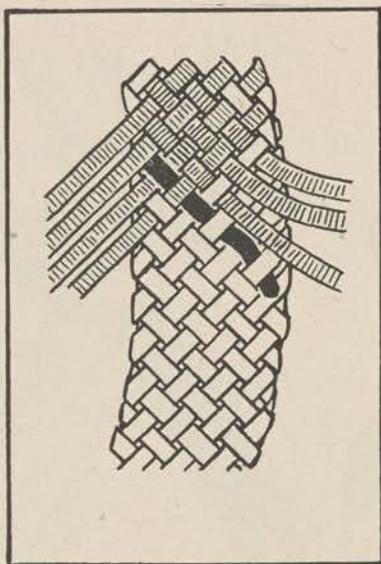

Figure 158.
b. When the core has been covered and the pattern is completed, the bracelet is finished by weaving the eight strands through the open stitches at the beginning of the work. Start with the lower right strand and work it alternately under and over the four beginning stitches at the right (fig. 158). The illustration shows the remaining strands pulled aside. Do the same with the lower left and continue until all eight are woven through the start of the work and protrude at the edges. Then carry them to the inside of the bracelet, tuck them through the stitches there and clip off their ends.